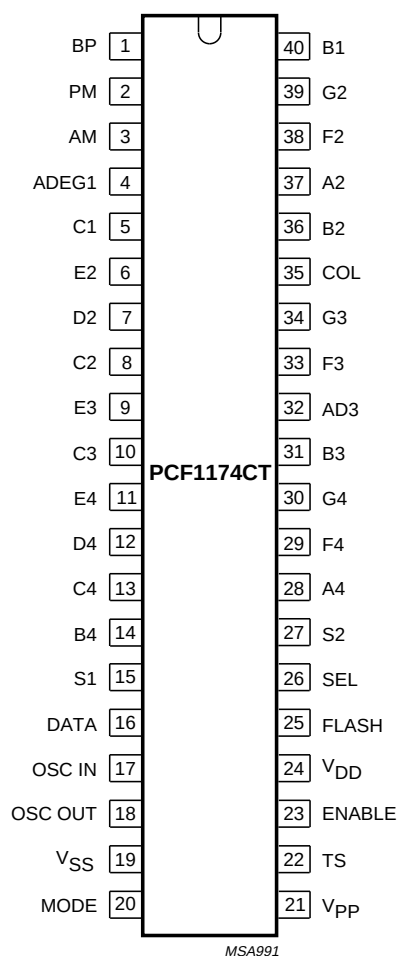

Fig.1 Pin configuration, PCF1174CT, (VSO40).
1. See Fig.1 and Chapter “Package outline” for pin layout and package details.